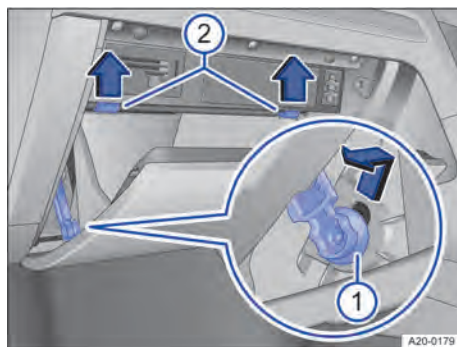

Fig. 179 Fuse box cover in the dash panel: right-hand drive vehicle, on the front passenger side (illustration).
- ① Restrictor.
- ② Catch.
1. Open the glove box and empty if necessary → Fig. 179.
2. Push the restrictor upwards into the opening of the holder and pull out to the side → Fig. 179 ①.
3. Push catches upwards in the direction of the arrow and at the same time open the stowage compartment further → Fig. 179 ②.
wards beyond the resistance of the catches → Fig. 179 ②.